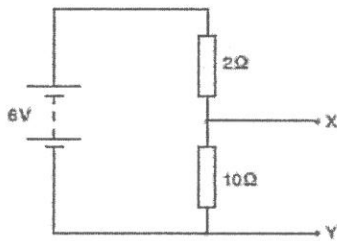

Figure 2 (a)
- (a) Figure 2 (a) shows two resistors connected to a 6 V battery.